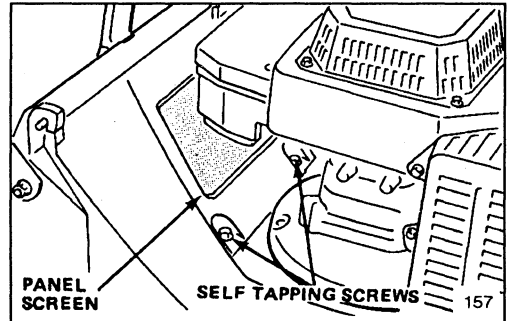

Figure 25
2. Remove (2) 1/2" self tapping screws securing panel screen to mower deck and remove panel screen (Fig. 25).